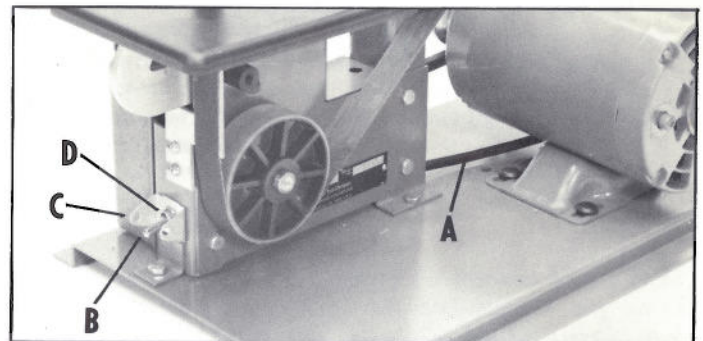

Fig. 8
2. Pass the switch cord (A) Fig. 8, through the inside of the machine base and insert the switch and switch stem (B) through the hole in the front of the machine making sure the keyway in the switch stem is in the down position.
3. Place the switch bracket (C) Fig. 8, on switch stem with key in switch bracket engaged with keyway in switch stem and fasten in place with hex nut (D) that was removed in STEP 1.